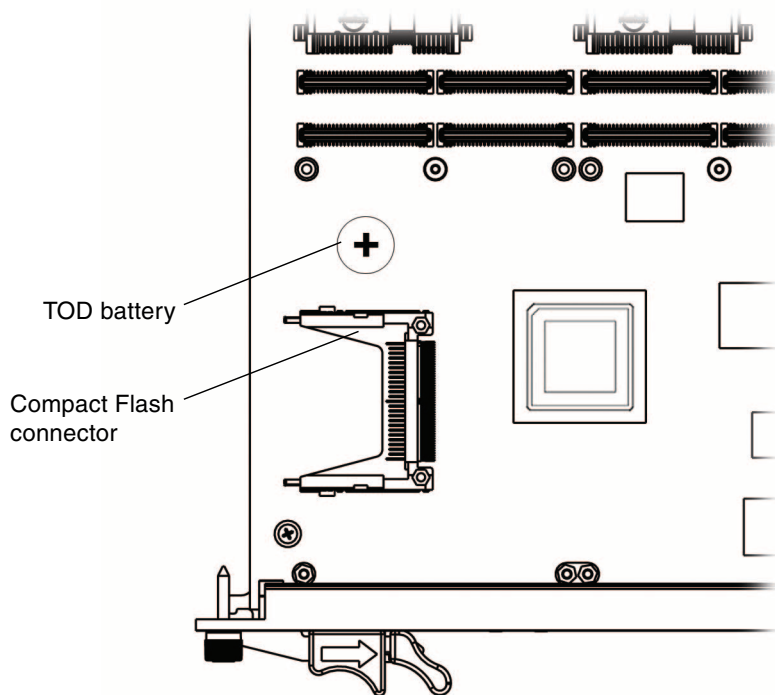

FIGURE 2-4 TOD Battery and Compact Flash Locations
2. Slide the battery into the holder (FIGURE 2-4) with the side labeled “+” facing up.
2. To install the Compact Flash card, use the arrow on the card’s label as a guide and insert the card into the Compact Flash connector (FIGURE 2-4).